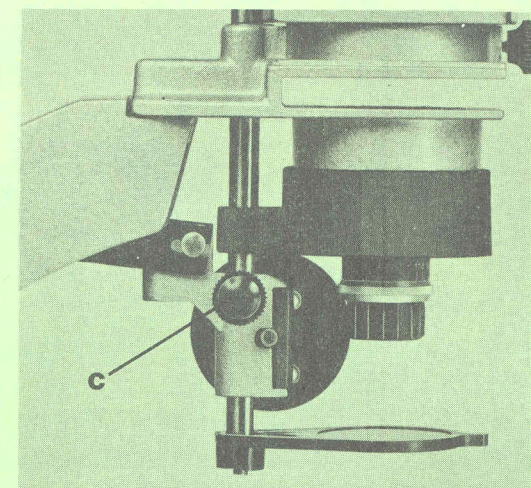

Fig 3
**1.** Rack the enlarger head down as far as it will go using the control knob (18), fixing it in place with the locking knob (16).
**2.** Rack manual focus control (3) down as far as it will go, locking it in this position with knob (C—fig. 3).
**3.** Press the front of the negative carrier down to enable a strip of negatives to be inserted with the emulsion (matt) side facing towards the baseboard. Release pressure on the carrier, switch on the amp using the on/off switch (21). Move the red swing filter (2) to one side, making certain the cap has been removed from the lens.
**4.** With the column set in its lowest position in the support flange (22), and with a sheet of paper on the baseboard to simulate the photographic paper, the lens should now focus correctly.
1. Loosen the locking screw (C—fig 3) then focus the lens by turning control knob (3) in an upwards or downwards movement.
2. Magnification can be increased or decreased by using knob (18) after first having loosened the locking knob (16).
3. To return from manual control to automatic focusing, the friction knob (3) should be turned until the lens support (5) is at its lowest position, where it should be locked into place with screw (C—fig 3). The enlarger can then be used in its normal mode, focusing automatically direct on the baseboard.
4. If one has a masking frame with a depth of less than 22mm, an alternative method of using the auto-focusing facility (i.e. to avoid the necessity of building-up the height of the masking frame) is as follows:— loosen column locking screw (23) and raise the column to the higher of the two notches, then retighten the locking screw. Loosen the head locking knob (16), then turn the magnification control (18) till the head support bracket (17) is in its lowest position. Then loosen screw (C—fig 3) and
adjust manual focusing control (3) until perfect focus is obtained. With control knob (3) left in this position the auto-focus feature will be retained; however it must be emphasised that screw (C—fig 3) must not be locked. FAILURE TO OBSERVE THIS WARNING CAN RESULT IN DAMAGE TO THE AUTO-FOCUS MECHANISM.